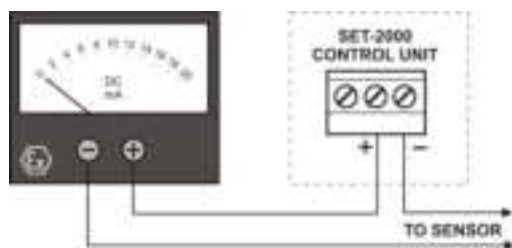

Figure 7. Sensor current measurement
- 3.3 Connect mA-meter as in figure 7.